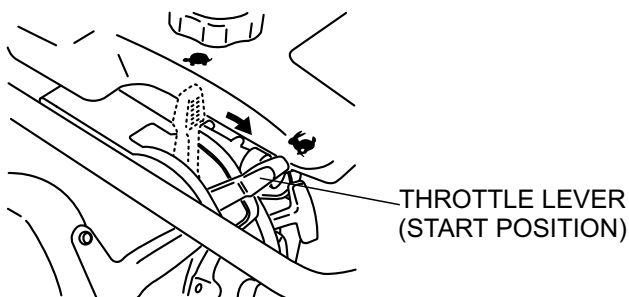

Figure 14. Throttle Lever (Start Position)
- To start the rammer tamping action, move the throttle lever (Figure 14) **quickly** from **IDLE** to the **START** (👉) position. **DO NOT** move the throttle lever slowly as this may cause damage to the clutch or spring.